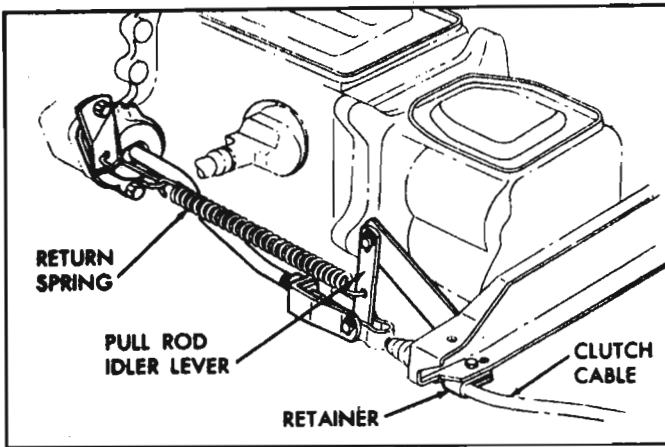

Fig. 6-21—Clutch Linkage—1200 Series Vehicles
- On all 1200 Series vehicles equipped with a manual transmission, the clutch linkage must be disconnected (or connected) as described below for removal or installation of the power train (fig. 6-21).